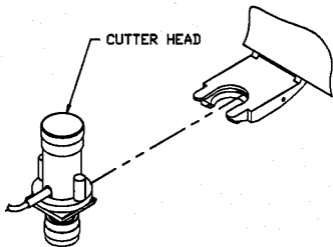

Figure 2-1 – Cutter Head and Pen Holder
1. Slide the Cutter Head into the Pen Holder. (See Figure 2-1). Tighten thumbscrews.